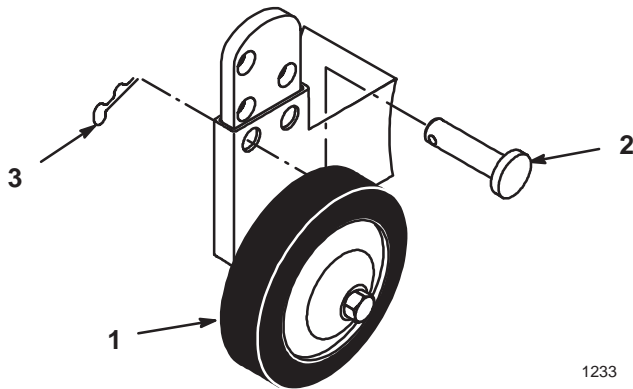

Figure 23
2. Remove the hairpin cotter and pin to change the hole location (Fig. 23).
3. Select a hole position so that the gage wheel is $\frac{3}{8}$ in. (10 mm) off of the ground for the height-of-cut to be used (Fig. 23).